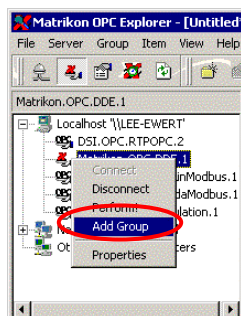

Figure 4-4. Right-click the DDE server and select Add Group.
1. Right-click **Matrikon.OPC.DDE.1** and select **Add Group** from the shortcut menu that is displayed (Figure 4-4).
1. Right-click **group1** and select **Add Items** from the shortcut menu that is displayed (Figure 4-4).